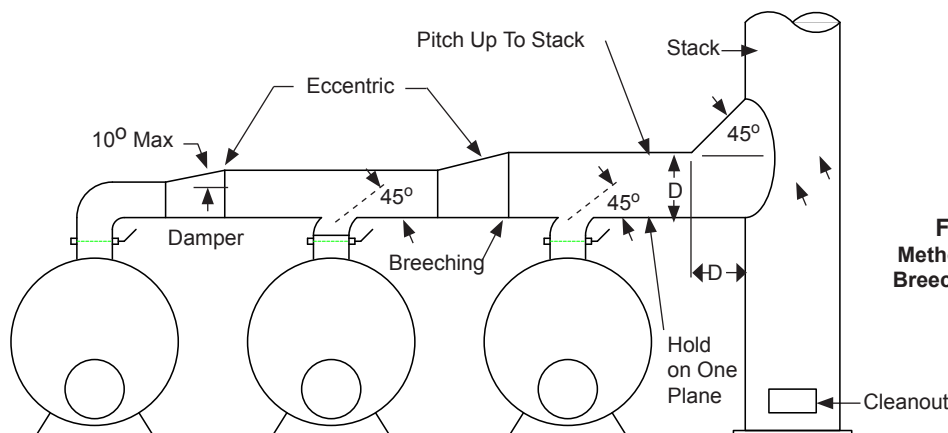

FIGURE C-15
a. Normally the duct would connect to the stack as shown in Figure C-15, with a 45 degree cut facing the flue gas flow and with the center of the cut centered in the stack. The duct could be made to the smoke box, but must still be located with the same 45 degree cut facing the flue gas flow stream and with the center of the cut in the center of the stream. Do not locate in an area that does not have a high volume of flue gas flow, or there may not be enough FGR available.
90 degree angle, but rather a 45 degree angle where the flows will easily join each other. When connecting multiple boilers into a single breeching, the breeching size must be increased to accommodate the larger flow rates before the introduction of the added flow. These breeching size changes must be gradual, with no more than a 10 degree slope change in the duct. When multiple breechings are connected into a common stack, their locations must be staggered to prevent the flow of one breeching interfering with another. Figure C-15 shows these general guidelines.